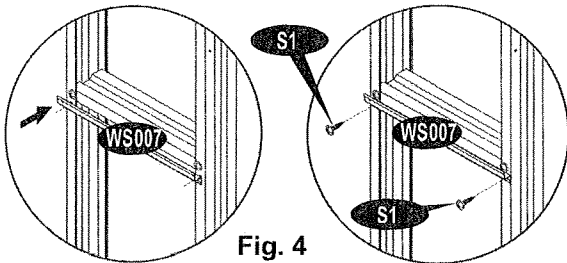

Fig. 4
10. Place wall middle support front (WS007) on both left and right with (S1) screws. See fig. 4.